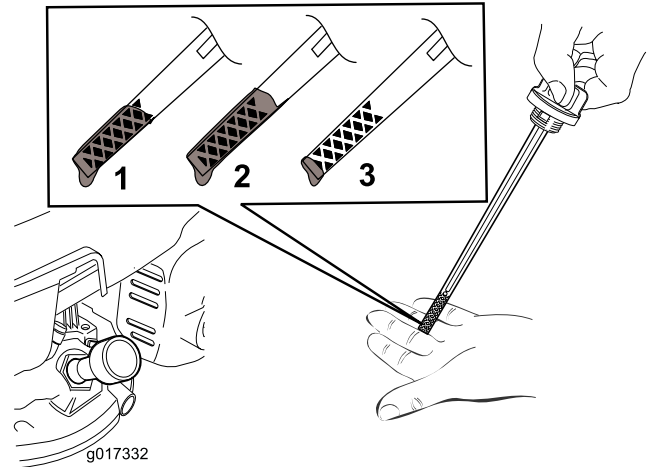

Figure 12
5. To determine the proper oil level on the dipstick, refer to Figure 12).
**Note:** Fill the engine crankcase with oil until the dipstick indicates that the engine oil level is correct as shown in Figure 12. If you overfill the engine with oil, remove the excess oil as directed in Changing the Engine Oil \(page 17\).